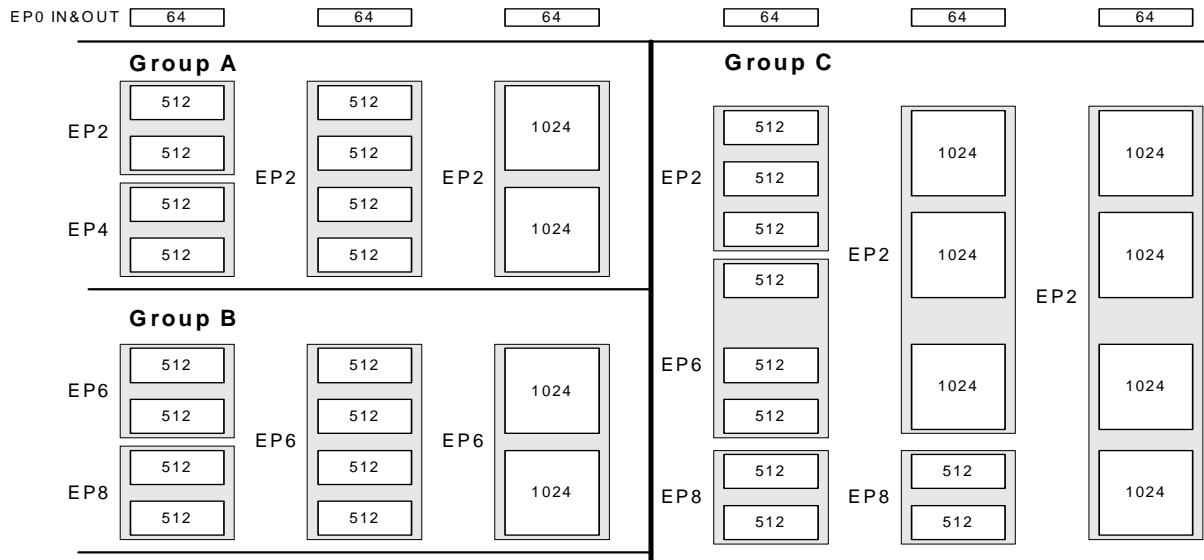

Figure 3-1. Endpoint Configuration
- EP2, 4, 6, 8–Eight 512-byte buffers, bulk, interrupt, or isochronous. EP2 and EP6 can be either double-, triple-, or quad-buffered. EP4 and EP8 can only be double-buffered. For high-speed endpoint configuration options, see *Figure 3-1*.
Endpoint 0 is the same for every configuration as it serves as the CONTROL endpoint. For Endpoints 2, 4, 6, and 8, refer to Figure 3-1. Endpoints 2, 4, 6, and 8 may be configured by choosing either: